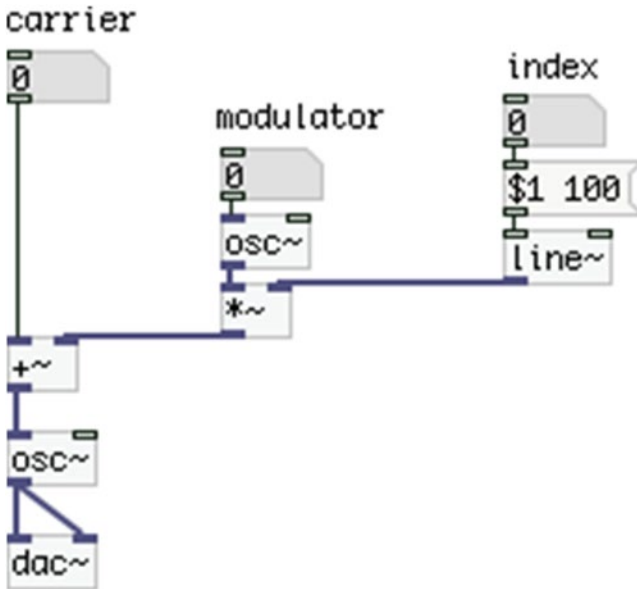
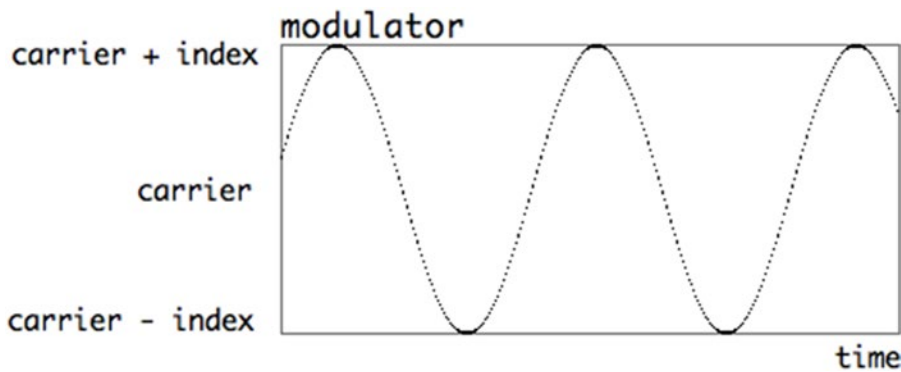

Figure 1-39. A Frequency modulation patch
Figure 1-40. FM illustration
Next in line is the *frequency modulation* (FM). Here we use one oscillator, called the *modulator*, to modulate the frequency of another oscillator. The patch to do this is shown in Figure 1-39.
Figure 1-39 includes some comments describing the role of each element. The *carrier* is the frequency of the oscillator that we actually hear, which is called the *carrier oscillator*. The *modulator* is the frequency of the oscillator that modulates the frequency of the carrier oscillator. The *index* is the amount of modulation the modulator will apply to the carrier. What actually happens is that the frequency of the carrier oscillator goes up and down, from the carrier frequency + the index, to carrier frequency - the index. If you think about it, an oscillator outputs values from -1 to 1. Whatever number we multiply this with will give us the multiplier and its negative. If, for example, we multiply the modulator by 2, it will go from -2 to 2; if we multiply it by 5, it will go from -5 to 5. This resulting output goes into the right inlet of [+~], where it is added to the carrier frequency, which is steady, and the output of [+~] goes into the frequency inlet of the carrier oscillator. The frequency of the modulator sets how fast these carrier frequency changes will happen. Figure 1-40 illustrates this.